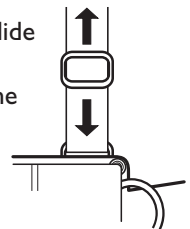

Figure 1
- Adjust the shoulder strap length by adjusting the height of the slide bars on the shoulder straps. See Figure 1. The top edges of the weight pocket assemblies are to be even with the top edge of the hipbone. Check to see that your weight pockets are in proper alignment by placing your thumb at the top edge of the hipbone